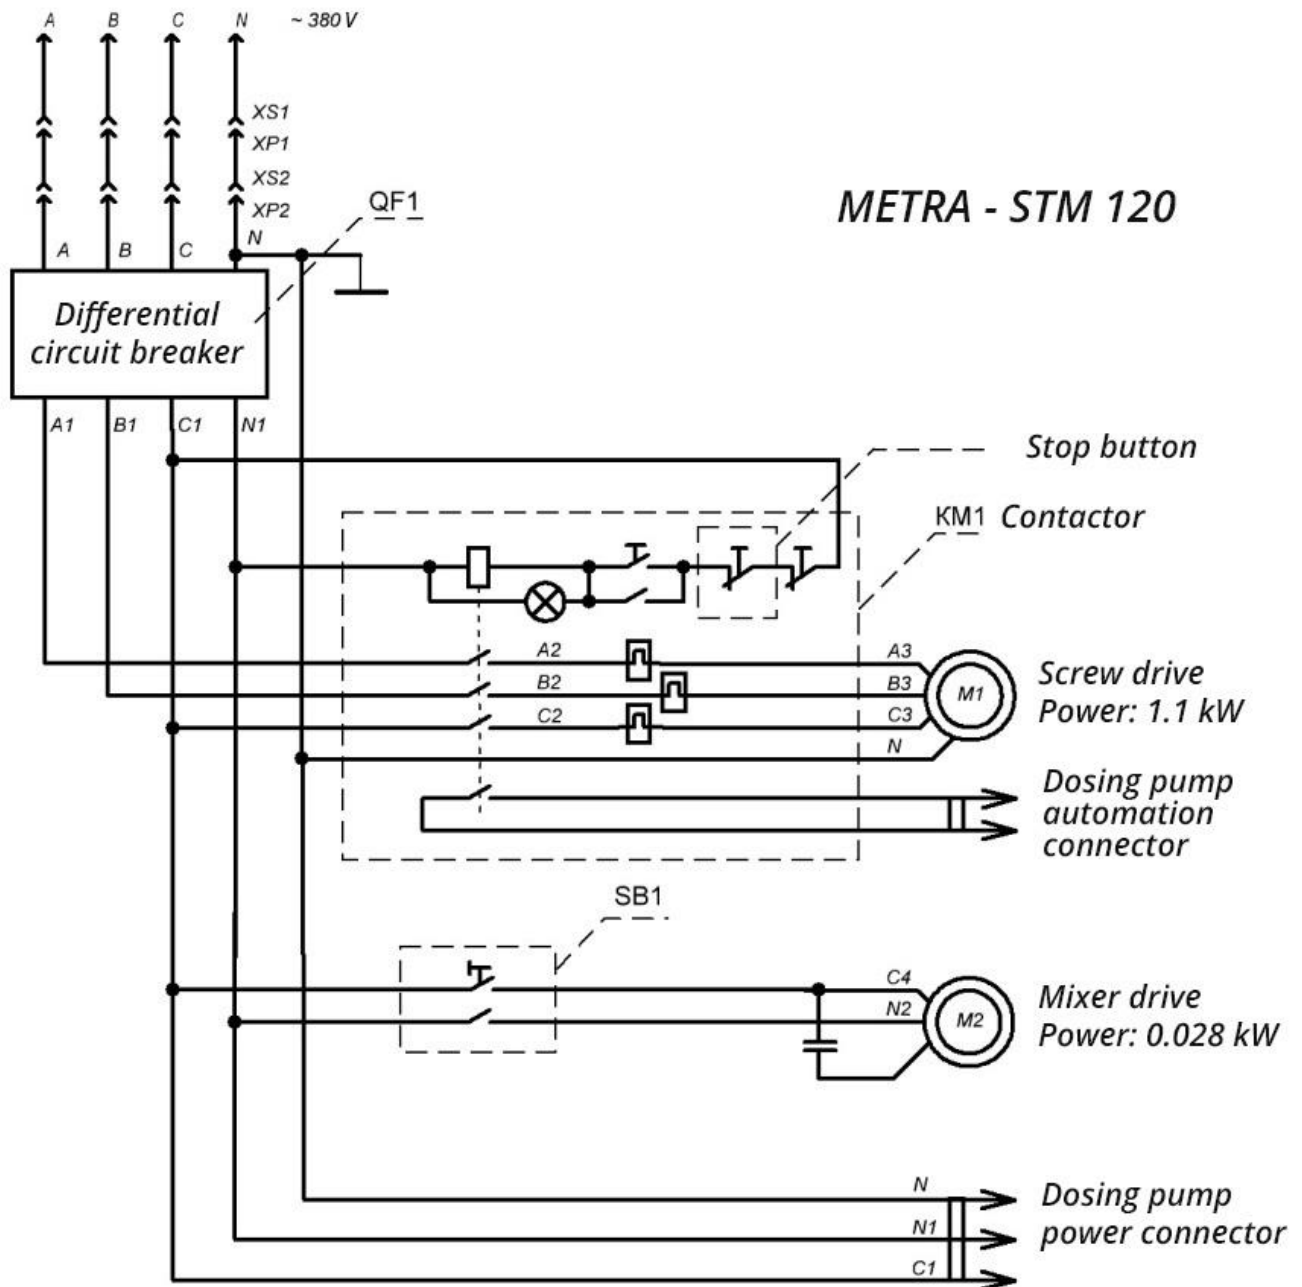

Figure 5.3
5.7 The electrical circuit of the electrical drive of the treater is illustrated in Figure 5.3.